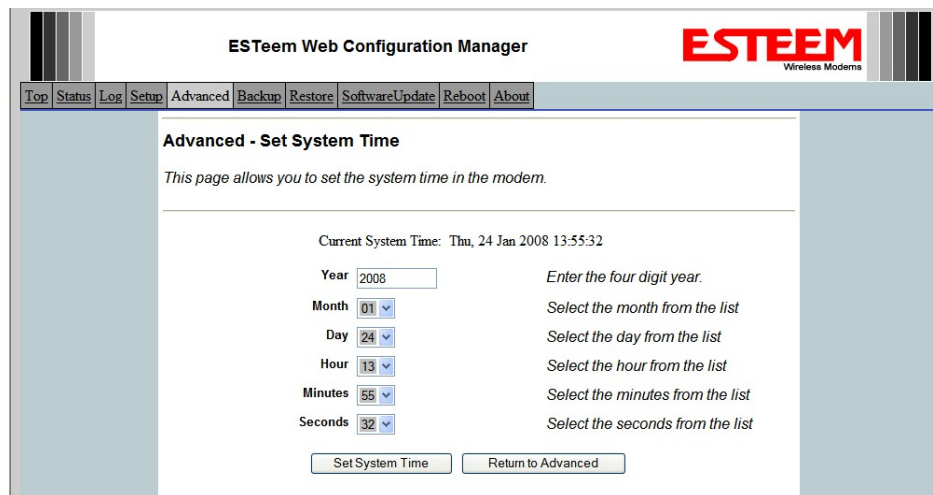

Figure 10: Advanced Features Screen
3. Select the correct date and time from the drop-down menus (Figure 10) and press the Set System Time button to save the time to the real time clock.